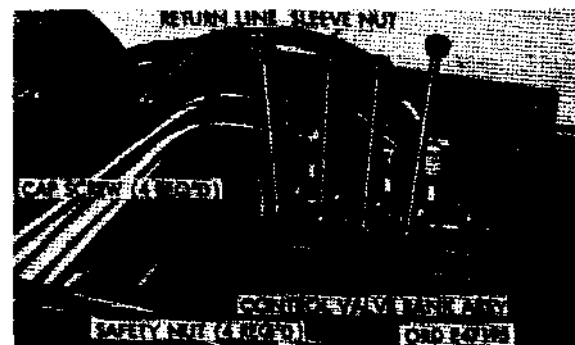

Figure 407. Rear view of operator's compartment and control valve bank assembly with cover removed (M62)
j. Control Valve Bank Assembly. The control valve bank assembly (fig. 407) is bolted to a shelf at the front of the operator's compartment. Wrecker crane operating instruction and caution plates are mounted on the control valve bank cover.